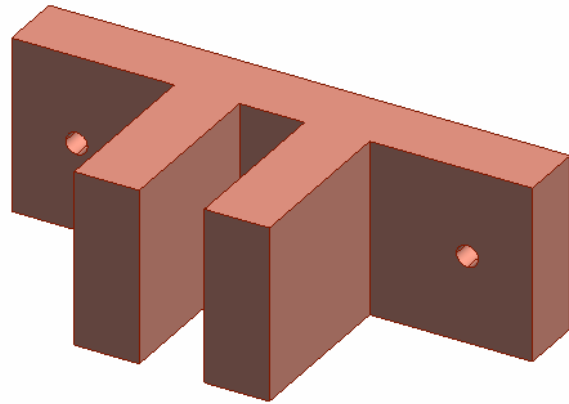

Figure 40. Extruded Arms.
86. Figure 40 shows the extruded arms.